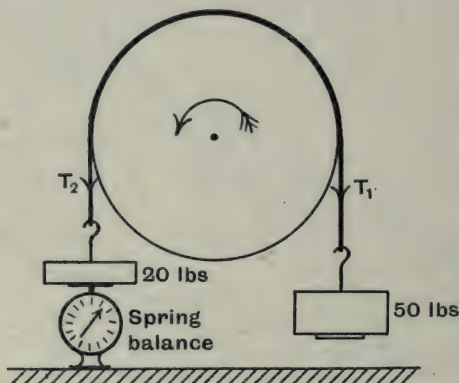

Fig. 114.
**Example (1).** *In order to measure the horse-power which can be given out by an engine, a brake is arranged, consisting of a belt on the flywheel of 5 feet diameter, as shewn in fig. 114. A weight of 50 lbs. is attached to one side of the belt and a weight of 20 lbs. to the other side. The 20 lbs. weight is partly supported on a spring balance. When the flywheel is running at 150 revolutions per minute the spring balance reads 9.2 lbs. Find the horse-power absorbed by the brake.*